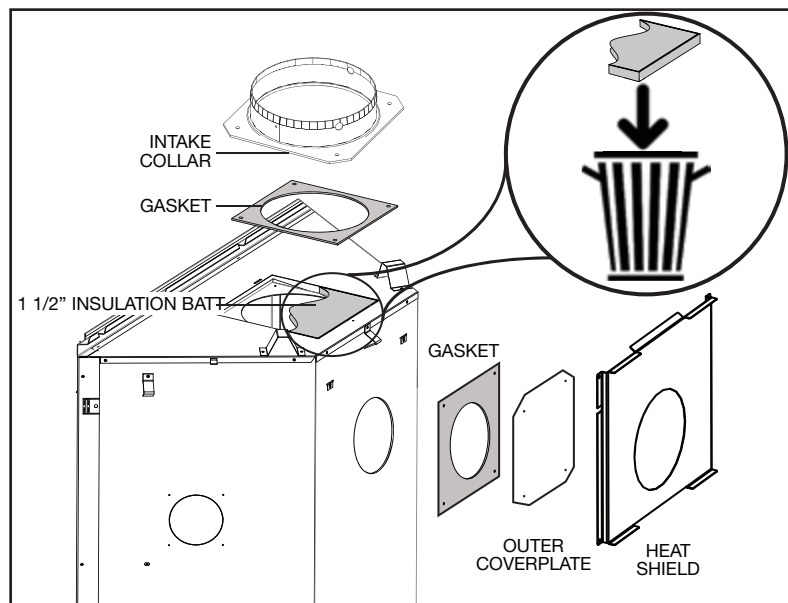

Fig. 2
- D. Remove the 1 1/2" (38.1mm) thick batt of insulation and **discard (Fig. 2)**.
- E. Place the 8" (203mm) intake collar and gasket onto the top of the appliance and secure using 4 screws (**Fig. 2**).